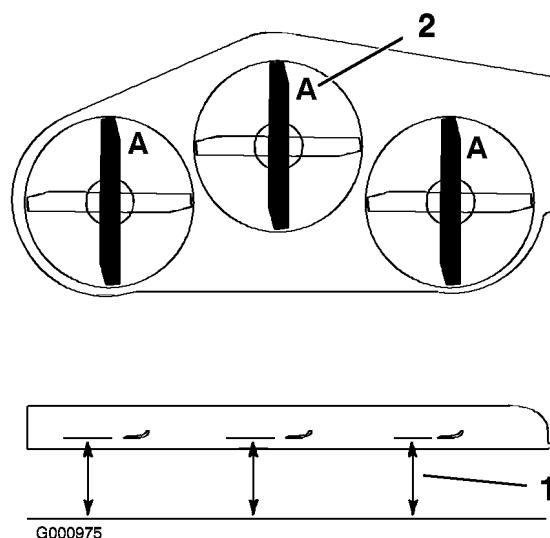

Figure 61
3. Rotate the blades until the ends face forward and backward (Figure 61). Measure from a level surface to the cutting edge, position A, of the blades (Figure 61). Note this dimension.